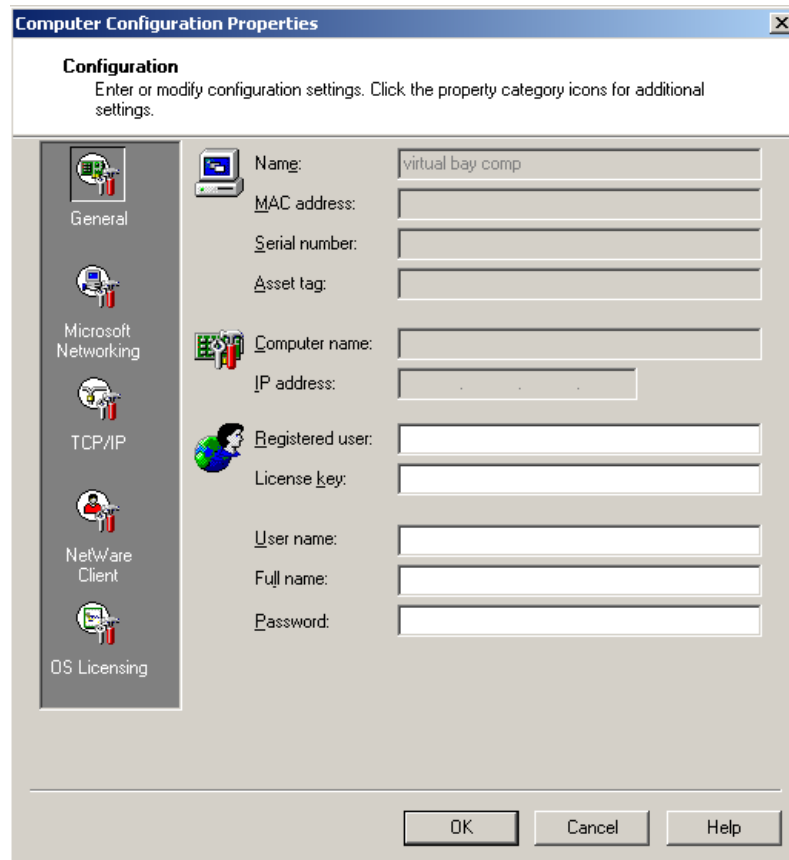

Figure 9-6 The Computer Configuration Properties window
The Computer Configuration Properties window, shown in Figure 9-6, is a valuable tool for prestaging Blade computers. This section will cover some of the value-add features that reduce time-to-production when your new BladeCenter chassis and Blade computers arrive at your location.
1. Assuming that you have not closed the Computer Configuration Properties window shown in Figure 9-6 on page 306, click the **TCP/IP** icon on the left side of the window. If you have closed the window, you can display it by right-clicking an existing enclosure and selecting **Configure** from the pop-up menu.